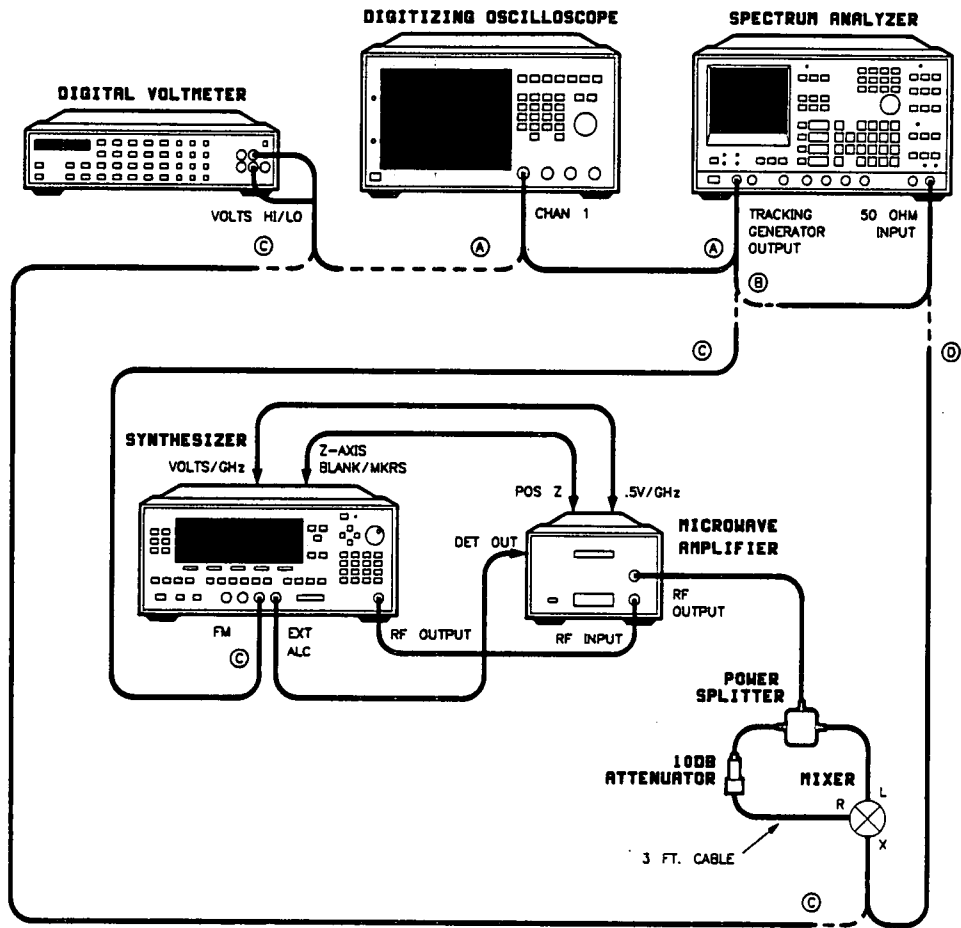

Figure 2-26. FM Bandwidth Test Setup
1. Connect the equipment as shown in figure 2-26 with the tracking generator output connected to the channel 1 input of the oscilloscope (A). A DVM can be used in place of the oscilloscope for RMS measurements. Preset all the equipment and let them warm up at least one hour.